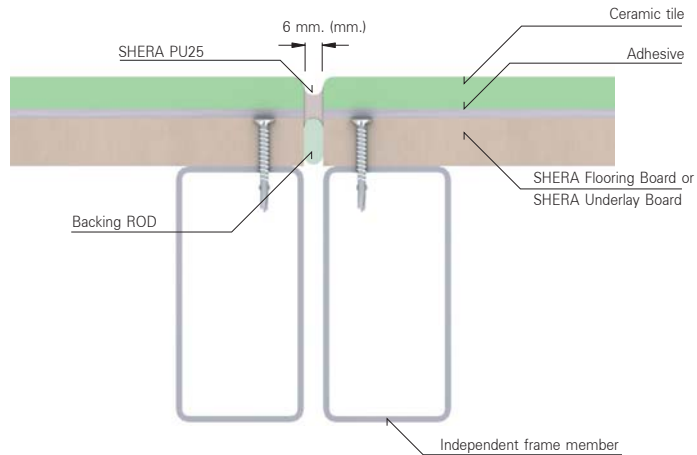

Figure 20 : Movement joint Details
- When SHERA flooring product is to be furnished by tile parquet or vinyl, make sure that movement joints be carried through the top of the floor surface. See figure 20 for details.